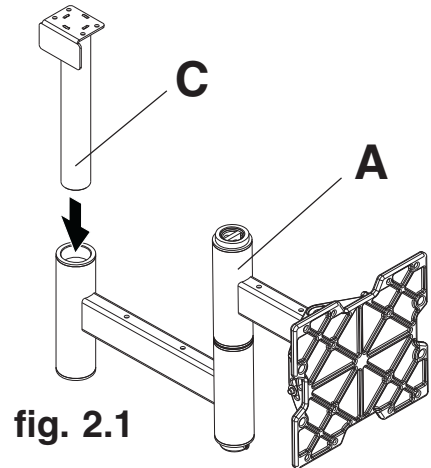

fig. 2.1
- 2** Insert arm axle (C) through arm assembly (A) as shown in figure 2.1.